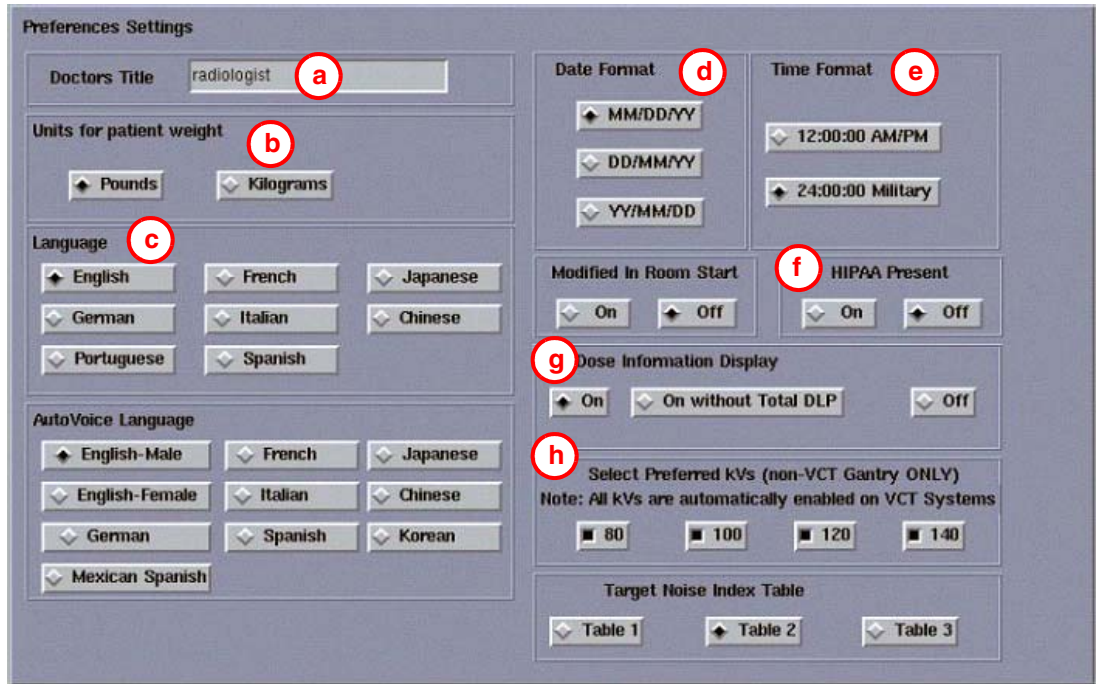

Figure 5-12 Preferences Setup Screen
- g.) Regenerate Database (refer to Figure 5-12) determines whether the Scan Database will be regenerated during reconfiguration. You should select NO.
- 5.) Select the PREFERENCES button to display the Preference Settings Screen (Figure 5-12).